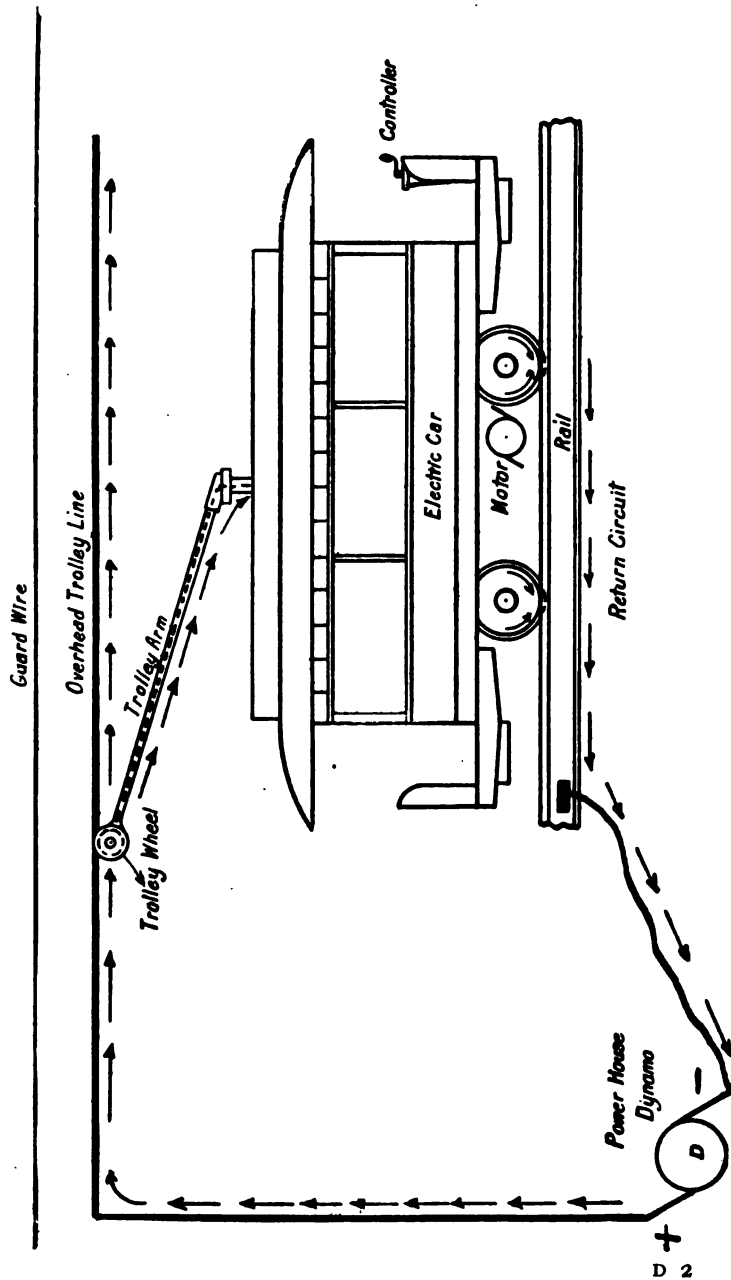

FIG. 31.—Electric Tramway Circuit.
*Fig. 31* illustrates the method of transmitting electric power from the power house to the "overhead trolley line." Then the current goes through the controller and motor and the return "rail" circuit back to the power house or generating station. (Taken from the author's book "Practical Construction of Electric Tramways," Spon.)